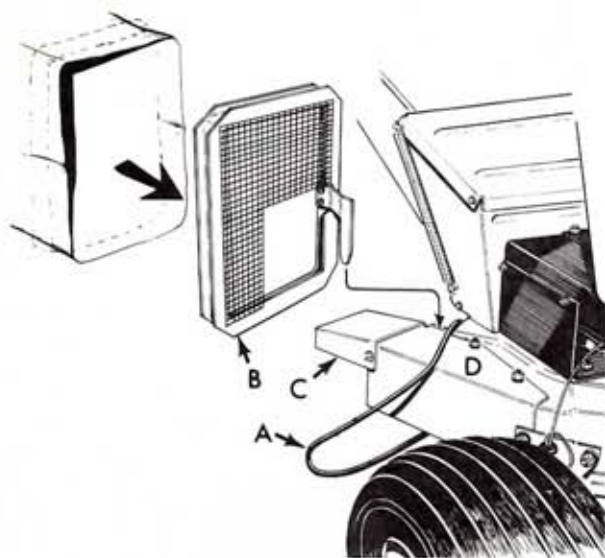

FIG. 16
1. Refer to Fig. 16. Lay bag retainer O-Ring (A) over end of discharge chute. Assemble bagger attachment screen (B) over end of discharge deflector (C) and insert screen bracket into rectangular holes on inboard side of discharge chute (D). Stretch bag over four corners of screen bracket about 3" to 4". Stretch bag retainer band (A) around screen bracket and fold front of bag back over retainer O-Ring.